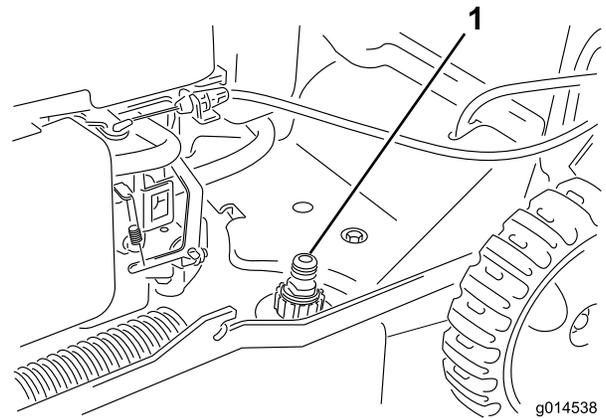

Figure 25
3. Attach a garden hose that is connected to a water supply to the washout port on the machine housing (Figure 25).